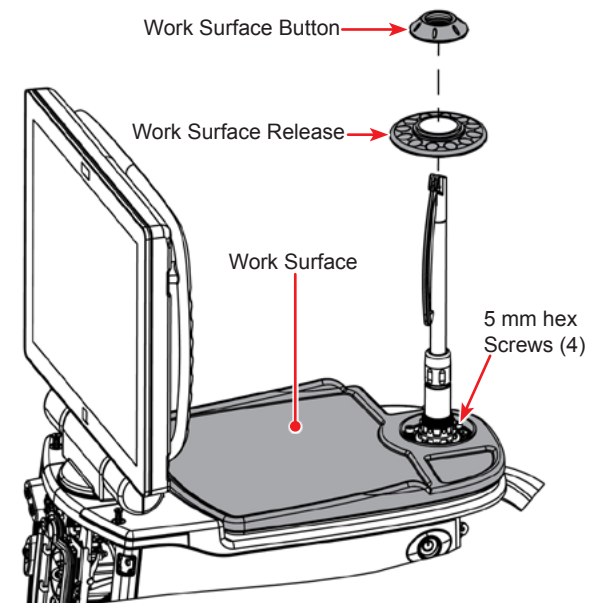

Figure 3-5 Removal of Work Surface Button and Release Button
- 8.1 Unscrew and remove Work Surface button (see Figure 3-5).